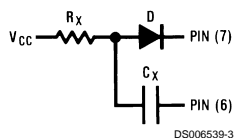

FIGURE 1.
2. When an electrolytic capacitor is used for C_X a switching diode is often required for standard TTL one-shots to prevent high inverse leakage current (Figure 1). However, its use in general is not recommended with retriggerable operation.